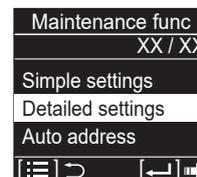

Fig. 4-12-2-3
- (3) Select the “Unit no.” (Fig. 4-12-2-4) by pressing the  or  button.